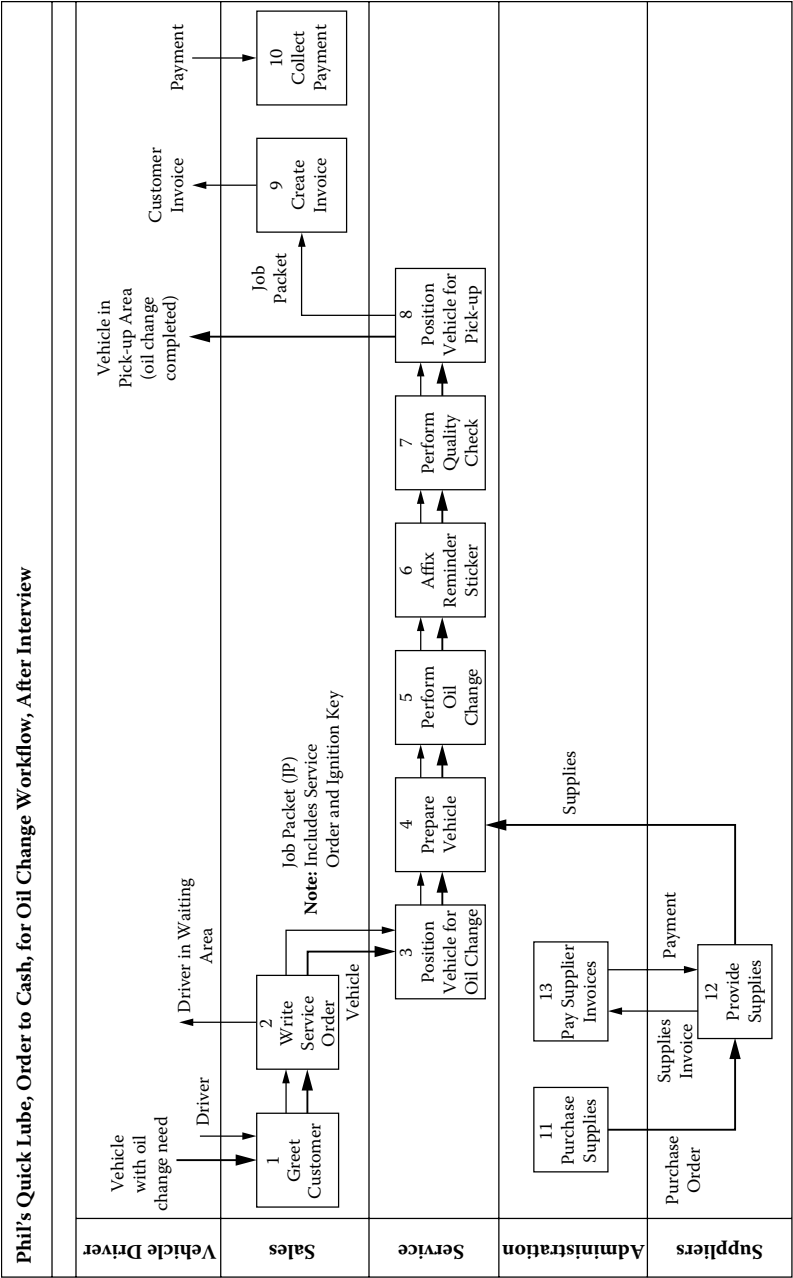
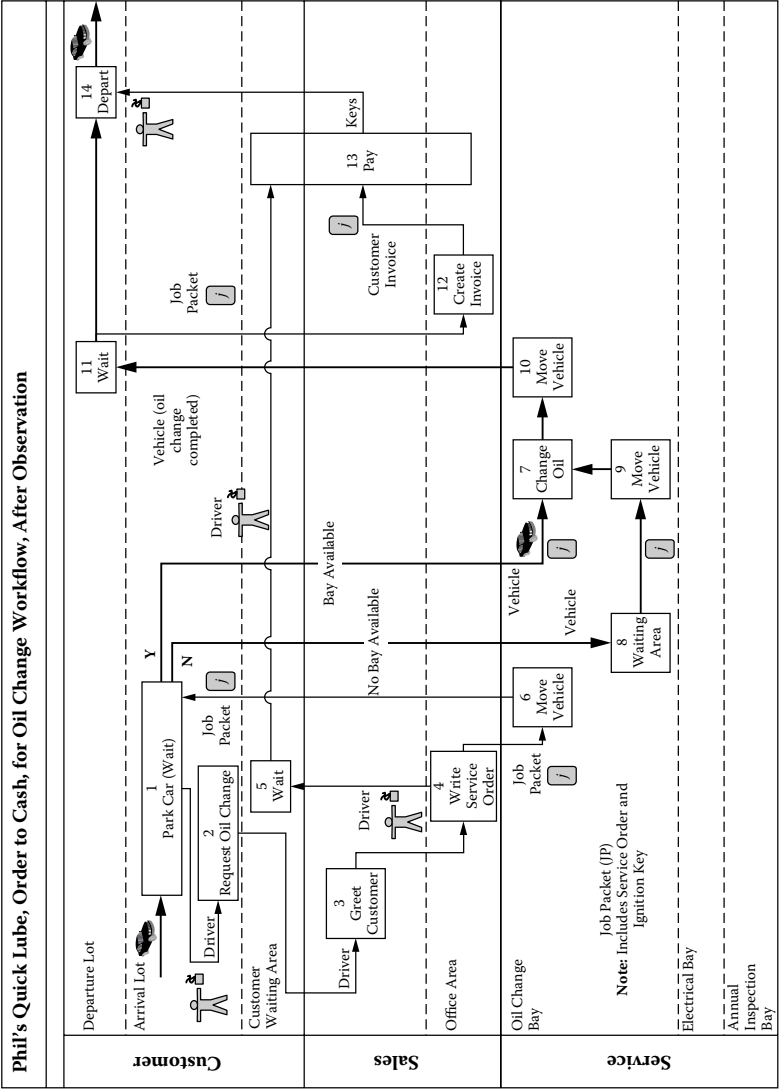

Figure 5.22 Swimlane diagram of Phil's Quick Lube, order to cash, for oil change workflow, after interview.
Figure 5.23 Phil's Quick Lube Order to Cash for an oil change workflow (after observation of work).
Oscar: Let's take a look at the map of the oil change work (Figure 5.22).
I've included two versions of a cross-functional process map associated with this work. The first version (Figure 5.22) is based on the *interview* only. The second version (Figure 5.23) is based on the interview *plus* observation of the work. I used the second version for this interpretation.
- Activities 1–14 in Figure 5.23. Note that this map does not include the supply-related workflow (activities 11–13 in Figure 5.22).
Please refer to Figure 5.23. I've used icons to highlight the flow of the customer, the vehicle, and information. The supplies do not show up in this map.